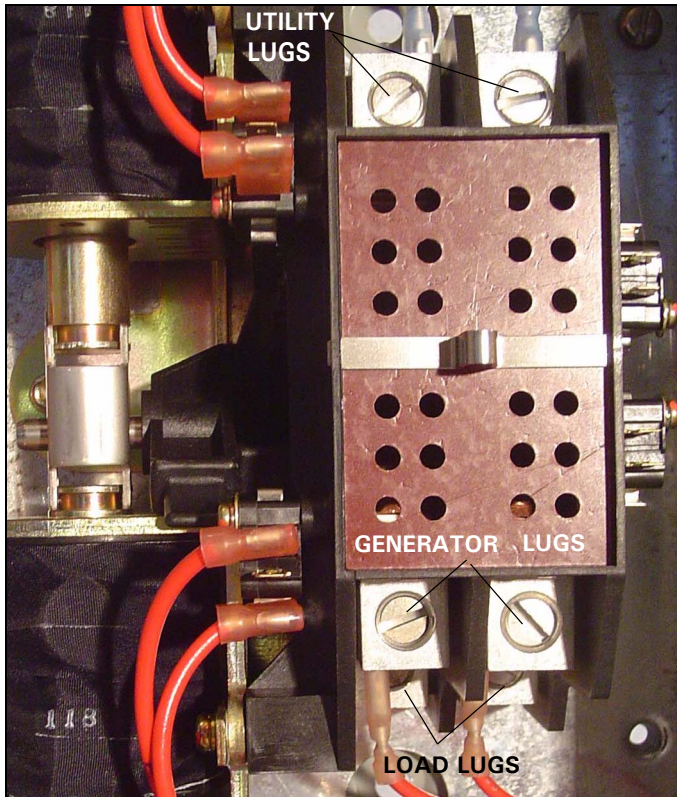

Figure 37. Replacing the 100 A Lugs.
Step 5: Remove the four (4) screws securing the contactor to the base plate using a blade screwdriver or 0.25 in. socket or nut driver.
Step 6: Remove the two (2) generator lugs and the two (2) load lugs using a blade screwdriver (see Figure 37).